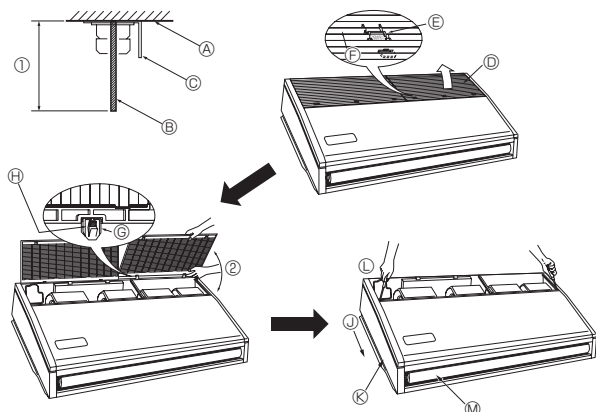

Fig. 3-5
3.2.5. Indoor unit preparation (Fig. 3-5)